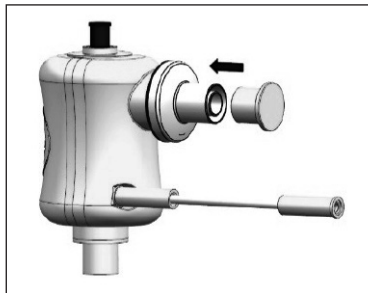

Fig. 6
4. To supply O₂% equal to 100%, apply the cap present in the package to the air inlet filter (see FIGURE 6).